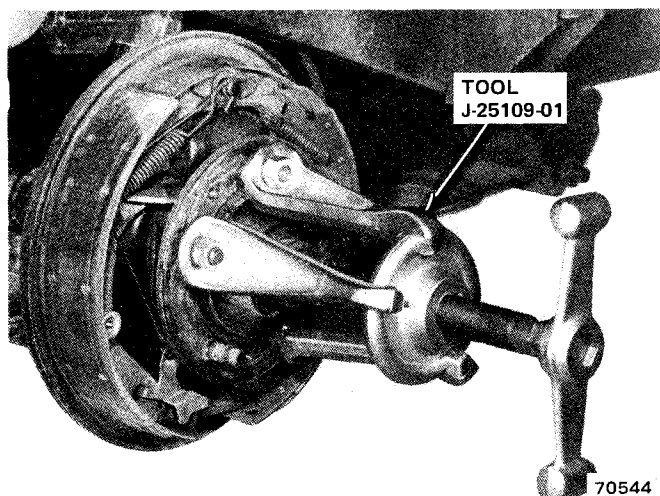

Fig. 2F-18 Axle Hub Removal—AMC/Jeep Axle
- (1) Remove axle shaft dust cap.
- (2) Remove axle shaft nut and washer.
- (3) Raise and support vehicle.
- (4) Remove wheel and tire.
- (5) Remove screws attaching brake drum to rear hub and remove drum.
- (6) Install Puller Tool J-25109-01 on axle hub and remove hub (fig. 2F-18).